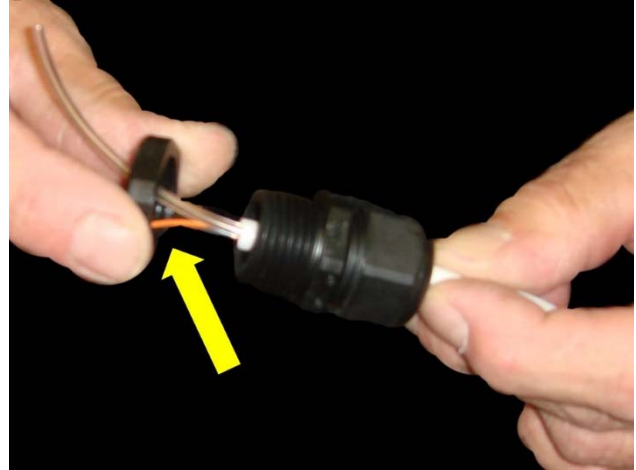

Fig. 7
8. On the new Ultrasonic Cord, remove the black plastic nut. It is just like the one removed in Step 7. (Fig. 7)